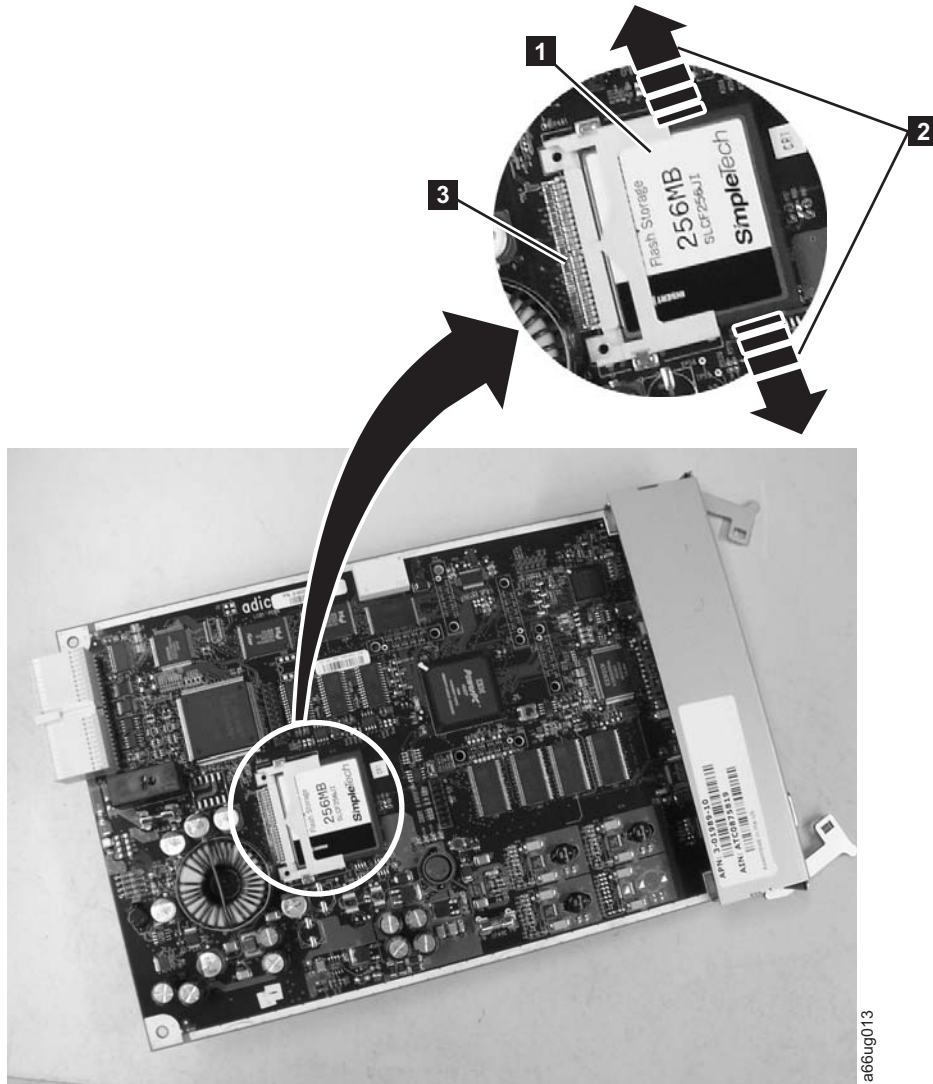

Figure 11-11. Removing the Compact Flash Card from the Library Control Blade
2. Locate the compact flash card component on the LCB board (**1** in Figure 11-11).
3. Without touching any other components on the LCB firmware board, carefully grasp the compact flash card and wiggle it using a gentle, side-to-side motion (**2** in Figure 11-11) until the pins on the compact flash card become disconnected from the pins on the LCB board (**3** in Figure 11-11). Then, slowly slide the compact flash card out of the guide slots.